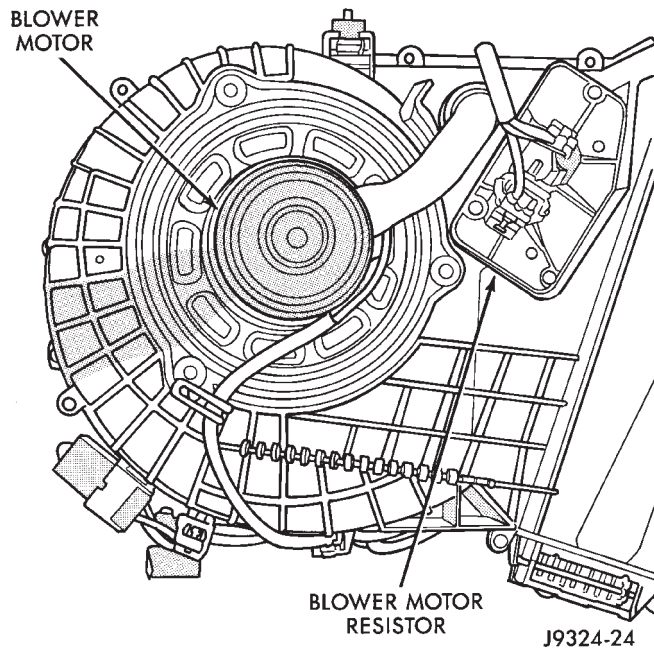

Fig. 7 Blower Motor Resistor (ATC Shown)
- (1) Disconnect the negative cable from the battery.
- (2) Remove the blower motor resistor connector(s).
- (3) Remove the resistor retaining screws.
- (4) Remove the blower motor resistor (Fig. 7).